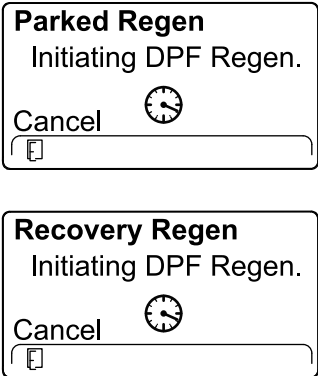

Figure 58
5. The InfoCenter displays the INITIATING DPF REGEN message (Figure 58).